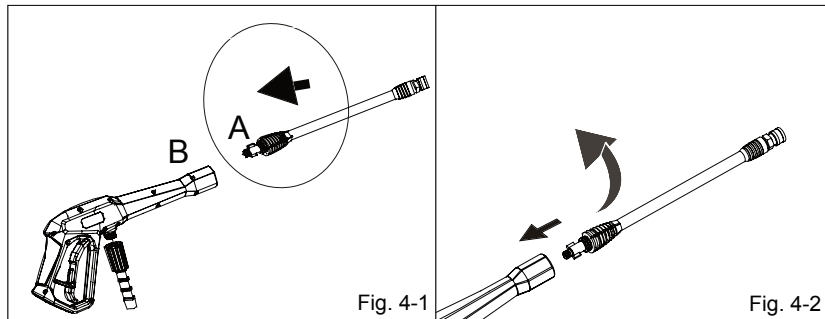

Fig. 4-1
- Insert the male end (A) of the wand into the female bayonet outlet (B) firmly. (See Figure 4-1.)